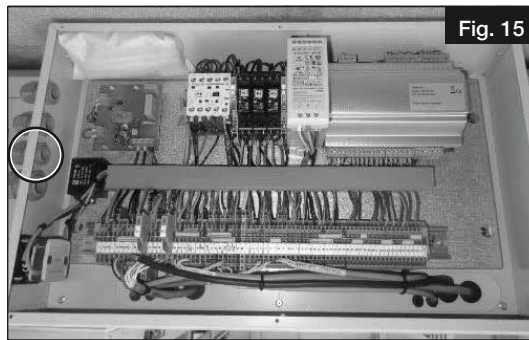

Fig. 15
2. Loosen the marked grommet and insert the cables (see Fig. 15).